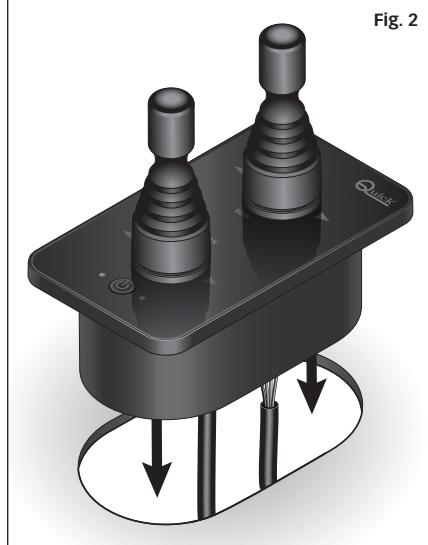

Fig. 2
- (**Fig. 2**) insert the control into the hole and press it to make it adhere well to the surface.